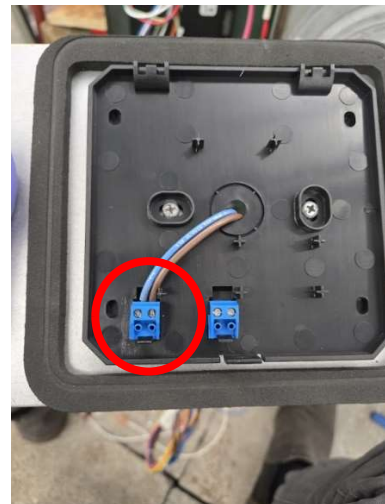

Figure 1: Front Cover Panel of Boiler Removed to Reveal Internals
1. Remove the front cover panel of the boiler as shown in Figure 1.